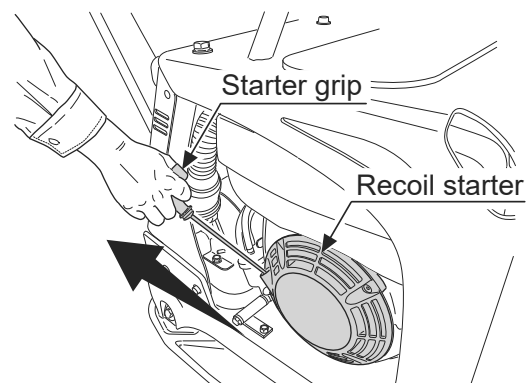

Fig.20
- 2 Hold the recoil starter grip, and pull it a little. You will feel a slight resistance. Then, pull it hard to run the engine. be careful not to pull too hard, or the rope might break or come off. Allow the starter rope to slowly move back into the case while keeping the grip grabbed. (Fig.20)